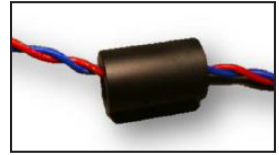

Figure 4: Leads may be simply fed straight through the ferrite core.
2. Slide the twisted leads through the included ferrite core and position as close to the sensor as practical. Refer to Figures 4 and 5.